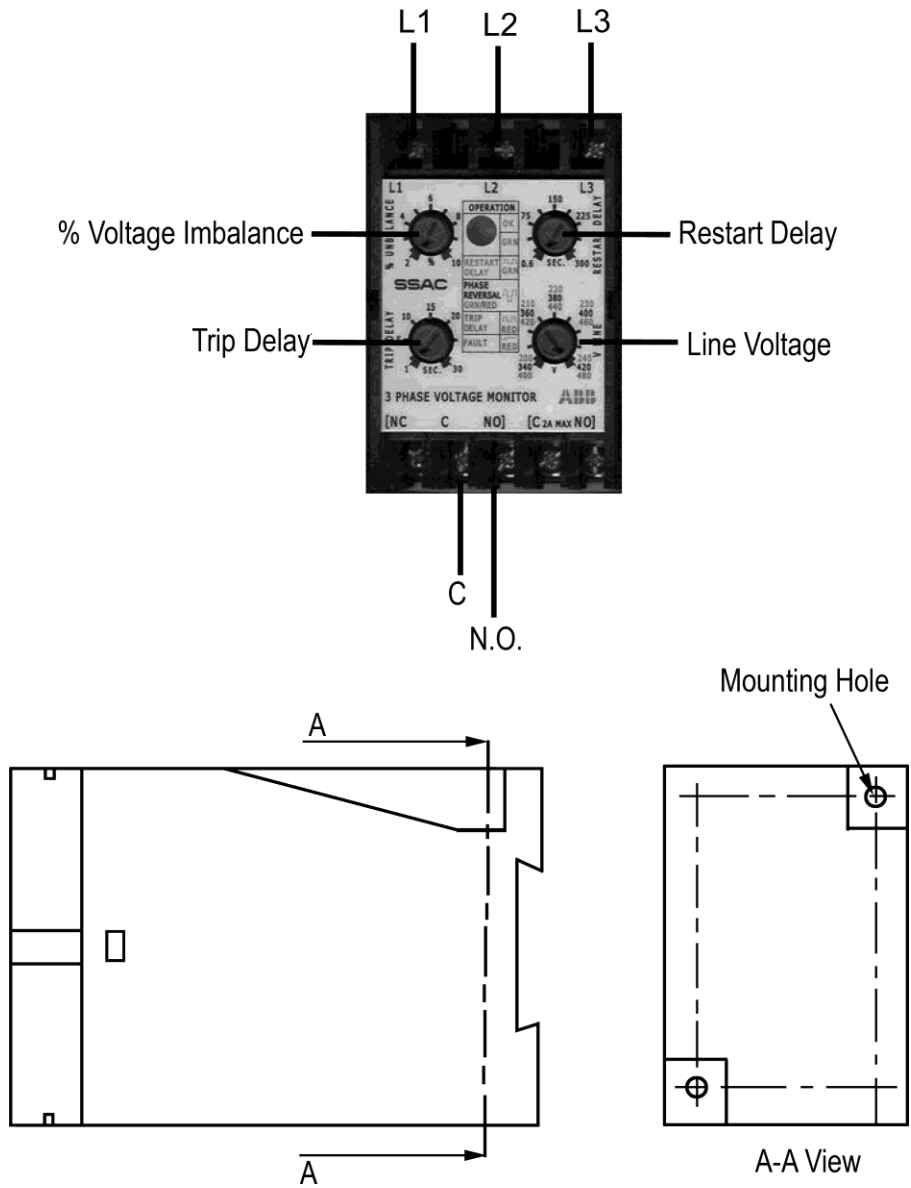

Figure 3: 613BY23 and 613BY24 Series Phase Monitor
1. Mount phase monitor either on a 35 mm DIN rail or by the mounting holes shown in Figure 3, mount in the location of relay to be replaced.